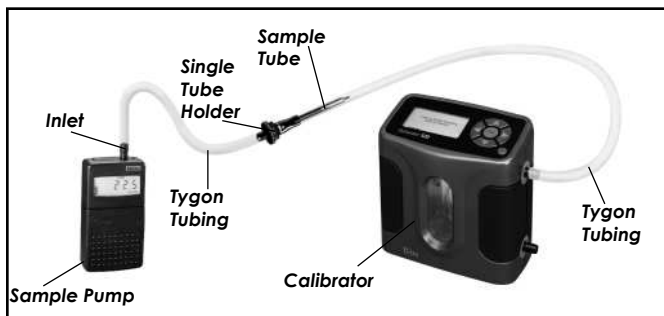

Figure 2. Calibration train using a single (non-adjustable) tube holder and Pocket Pump
With Single (non-adjustable) Tube Holder — See Figure 2
3. Calibrating the Flow Rate — See Figure 2